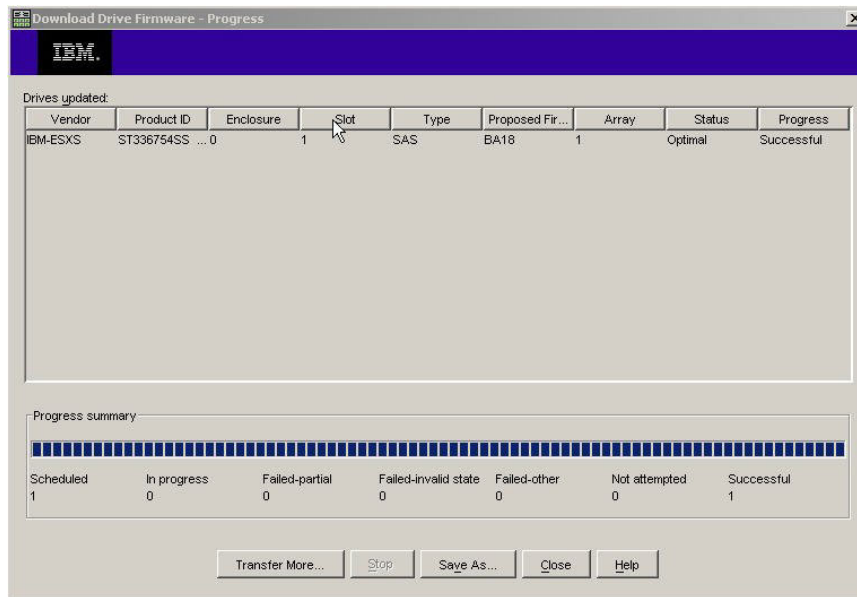

Figure 26. Download Progress window
10. When the Download Drive Firmware warning window opens and the message Do you want to continue? is displayed, type yes and click **OK** to start the drive firmware download. The Download Progress window opens, as shown in Figure 26 on page 98. Do not intervene until the download process is completed.